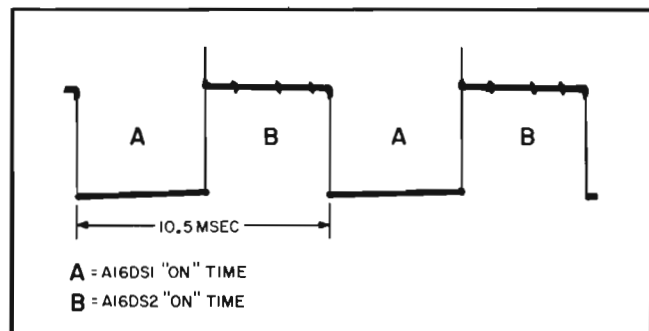

Figure 5-10. Meter Loop Chopper Waveshape
- Adjust A8R3 for a square wave repetition period of 10.5 msec (Figure 5-10).